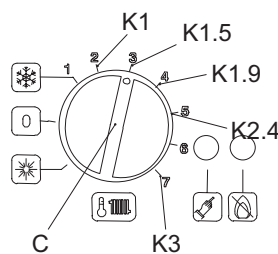

Figure 5.5
In case of setting the knob C Fig. 5.5 to switch off the boiler or to operate it for hot water only, **put the knob on the same position when reactivating the central heating operation.**
**The knob C Fig. 5.5 must remain on the position given by the installer. This will ensure the proper operation of the central heating system.**